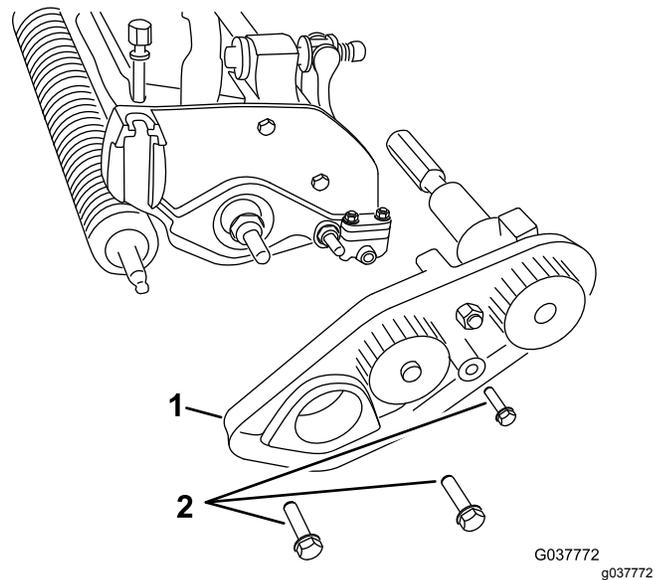

Figure 8
4. Remove the 3 bolts securing the belt-drive assembly to the cutting unit, if equipped, and remove the whole assembly (Figure 8).